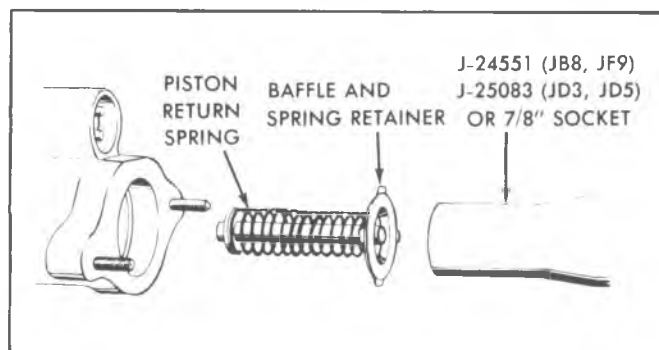

Fig. 5-14E—Installing Baffle and Spring Retainer
15. Secure new baffle and spring retainer using Piston Installing Tool or 7/8" socket as shown in Figure 5-14E.